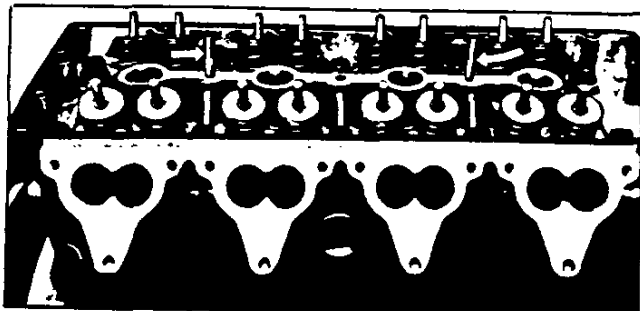

Fig. 17—Camshaft Carrier Guide Pins Installed
1. Install two guide pins, made from 1/4-20 bolts, to outer holes of inner (plug port) gasket (Fig. 17).